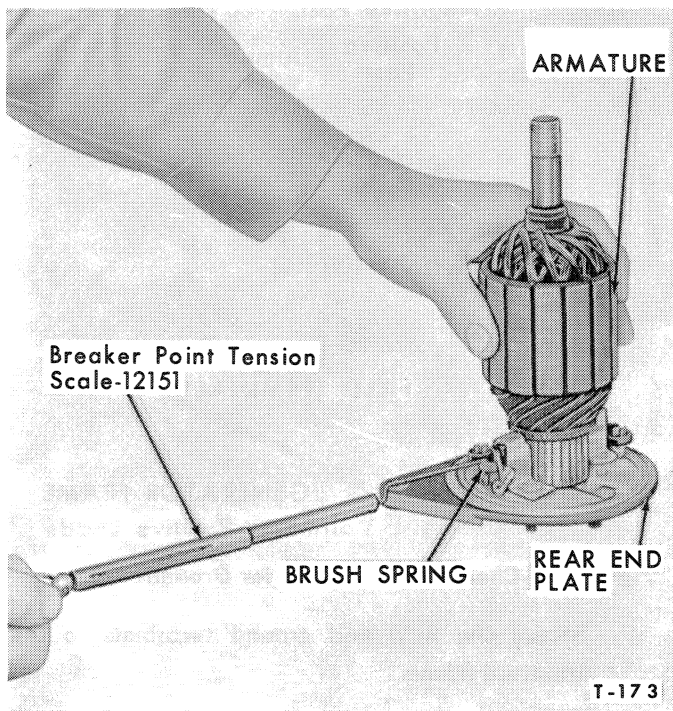

Figure 8—Checking Brush Spring Tension
4. Place the armature in the rear end plate and attach a tension scale to the brush spring as shown in Figure 8. Pull on the scale and note the reading when the spring leaves the brush. If not within 26-34 ounces (6-volt generator) or 32-40 ounces (12-volt generator), replace the springs.